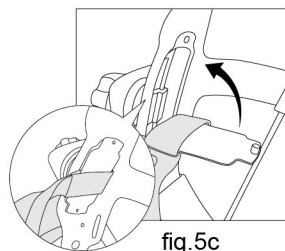

fig.5c
Step 3 : Clip buckle into original place (See fig.5c).